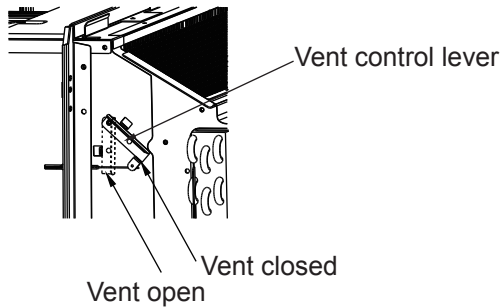

Fig.6
- Rotate the vent control lever to either open or close the vent door. (See Fig.6)
- Rotate the vent control lever to open the vent door. (See. Fig.6)